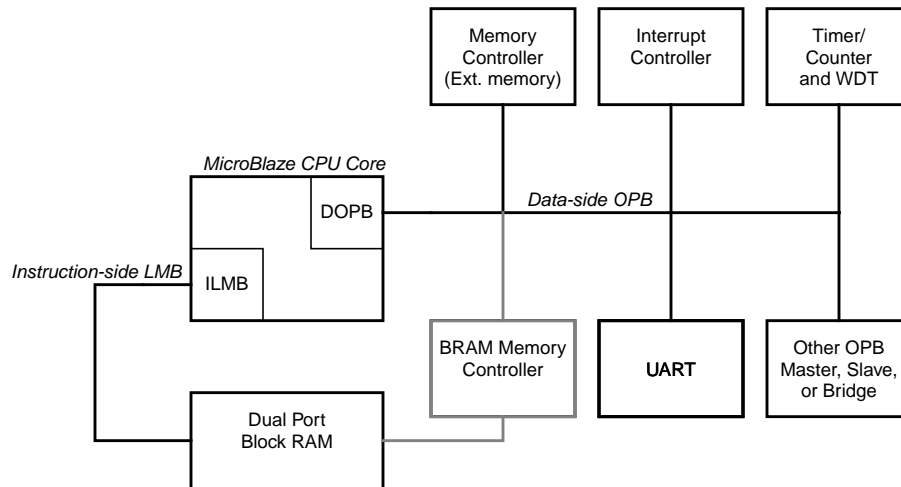
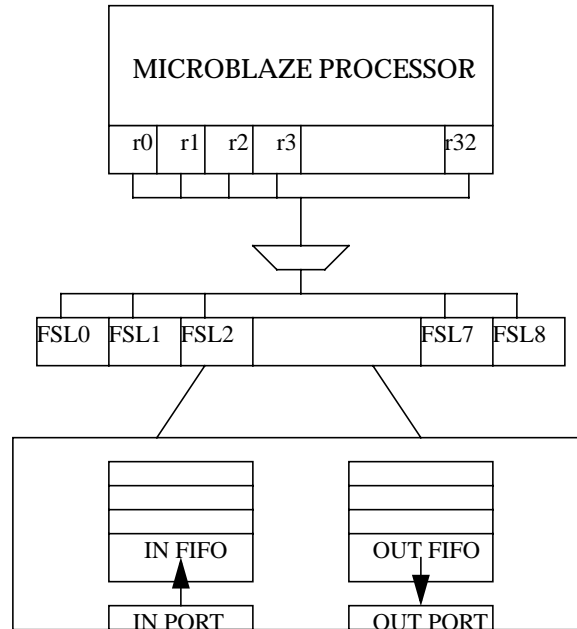

Figure 2-8: Configuration 6: ILMB+DOPB
Figure 2-9: FSL Configuration + MicroBlaze
**Note:** ILMB memory can be debugged via a software resident monitor if the second port of the dual-ported ILMB BRAM is connected to an OPB BRAM memory controller. See Figure 2-6 and Figure 2-8. Also, all the above 6 configurations can be used with a special FSL configuration. See Figure 2-9.